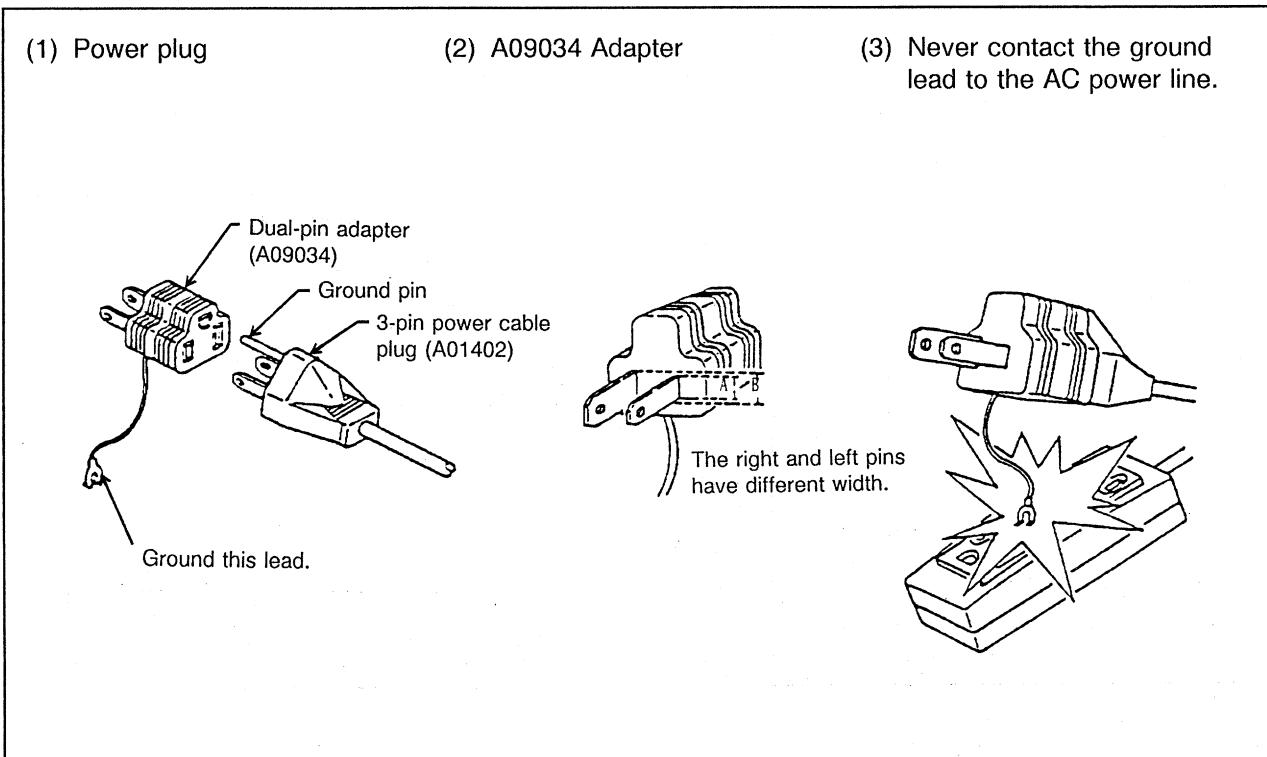

Figure 1-3 Plug and Adapter of Power Cable
The power cable has three pins. The round pin is ground (Figure 1-3 (1)).
The A09034 Adapter has two electrodes whose width differ from each other (Figure 1-3 (2)). Check the correct polarity of the plug and receptacle.